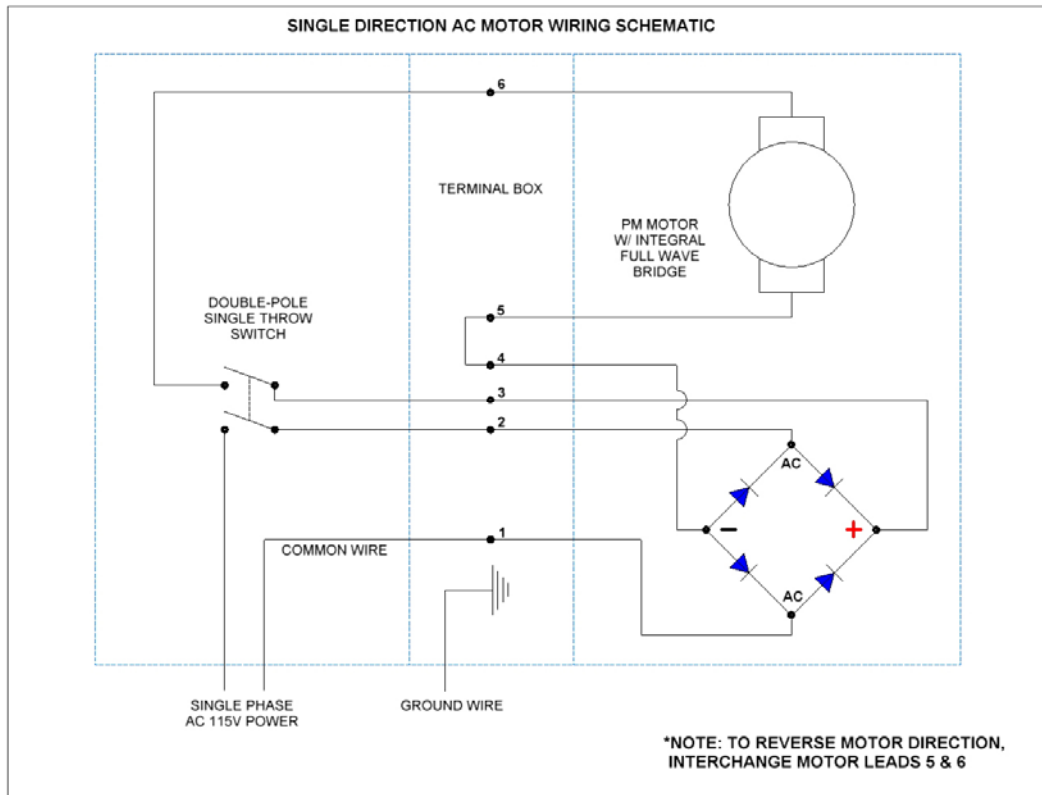

Figure 5: 115-VAC "EA" Motor Option, Single Direction
- 2.) Ensure power supply and motor voltage ratings are compatible. Refer to figures 5, 6, and 7 for wiring diagrams.